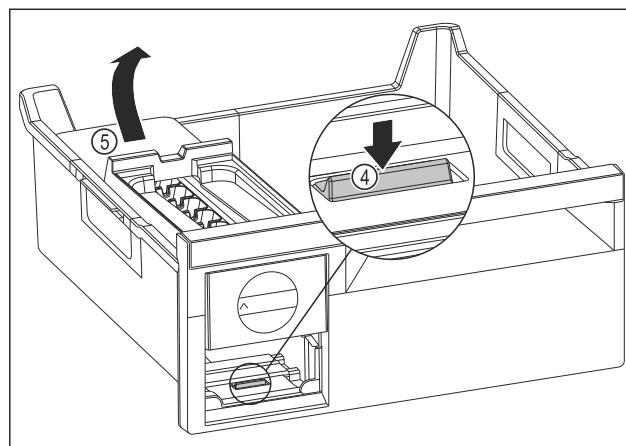

Fig. 165
► Removing the EasyTwist-Ice body: Use your finger to press the tab Fig. 165 (4) downward while at the same time lifting the EasyTwist-Ice body Fig. 165 (5) from behind with the other hand.